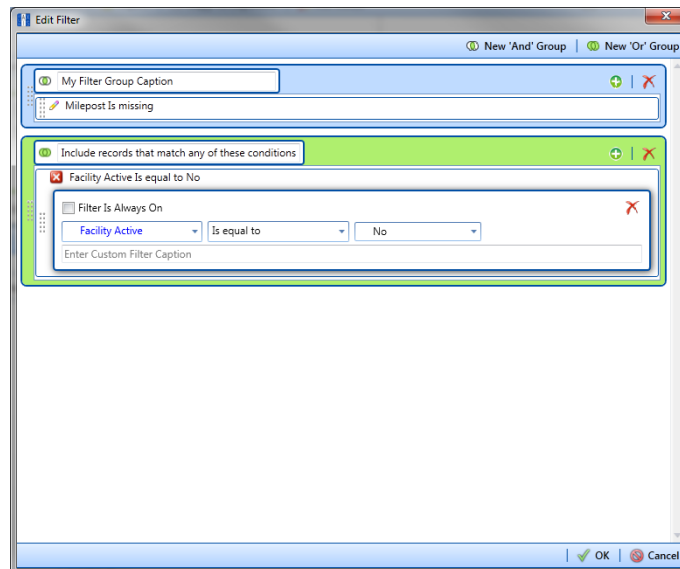

Figure 10-33. New 'Or' Filter Group
- a Click **New 'Or' Group** to open a filter properties group box (Figure 10-33).